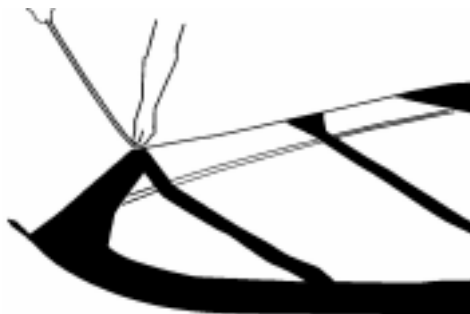

Figure 11. Push the wing battens one-by-one into the wing's batten pockets.
10. Take the wing battens (Part b6). Push the wing battens one-by-one into the wing's batten pockets (Part a5) with the rounded end in front and the tip facing up. The shortest battens go into the outermost batten pockets. (See figure 11.) Push the battens into the